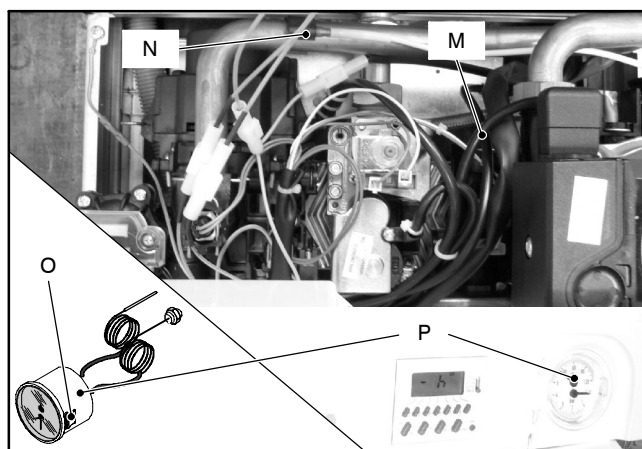

Fig. 65
- 2 Remove the fork M and the probe holder spring N (Fig. 65).